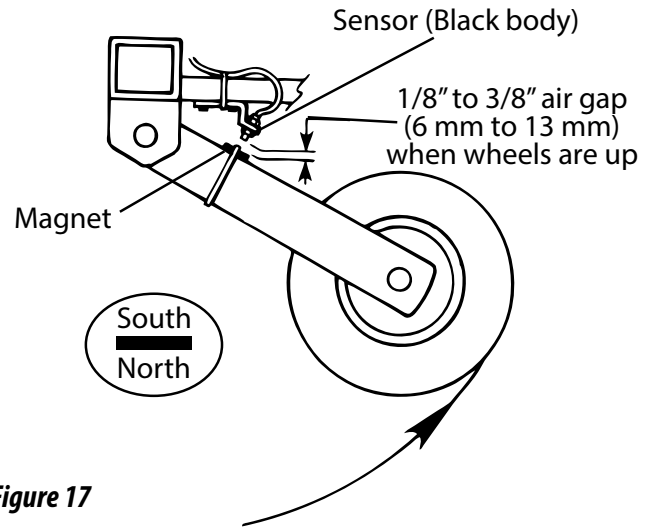

Figure 17
1. Choose magnet location on lever or some part of the equipment that moves when the implement is raised and lowered - be sure location will not interfere with any moving parts. See *figures 17 and 18* at right.